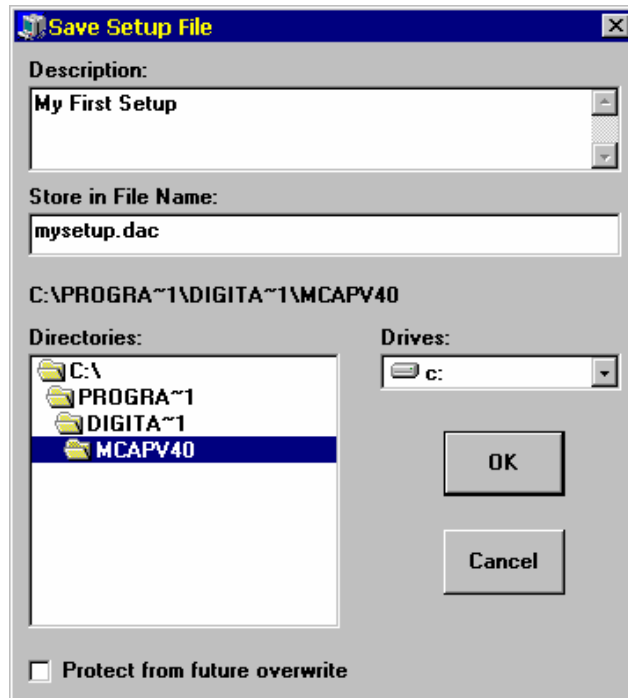

Figure 3-18 Tutorial Store in File Name Text Box
58. Click your mouse cursor on the **Description** text box, which should currently contain only the “.dac” extension. Using your keyboard, delete all characters in the text box, then type in **My First Setup**. See Figure 3-18.
59. Now click your mouse cursor on the **Store in File Name** text box. Use the left arrow key to move the cursor to just before the “.dac” extension, then type **mysetup**. These entries should appear as in Figure 3-18.